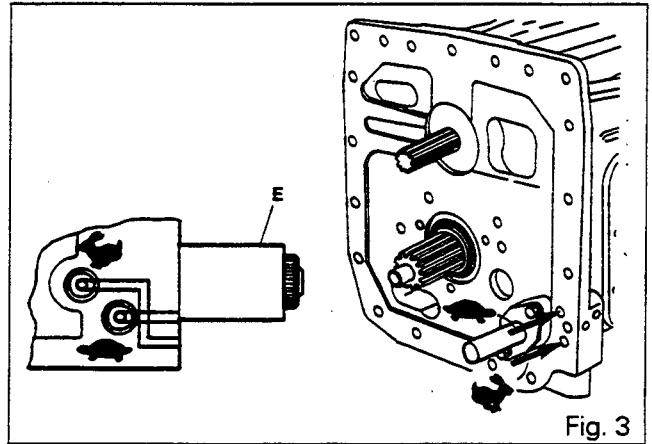

Fig. 3
Solenoid valve E, which is mounted at the bottom of the RH cover ( chapter 9I01) (Fig. 3), opens and feeds hydraulic oil to chamber (a) situated at the rear of piston (13) (Fig. 9). The piston moves forward and applies pressure to fork (20).
8. Take out the cotter pins (18) and (25), washers (17) and (26). Remove pins (11) and (20). Lift the dust covers (49) (51) and (9) (16). Remove the reversing lever (23) and gear lever (12) and mark their positions (Fig. 3).